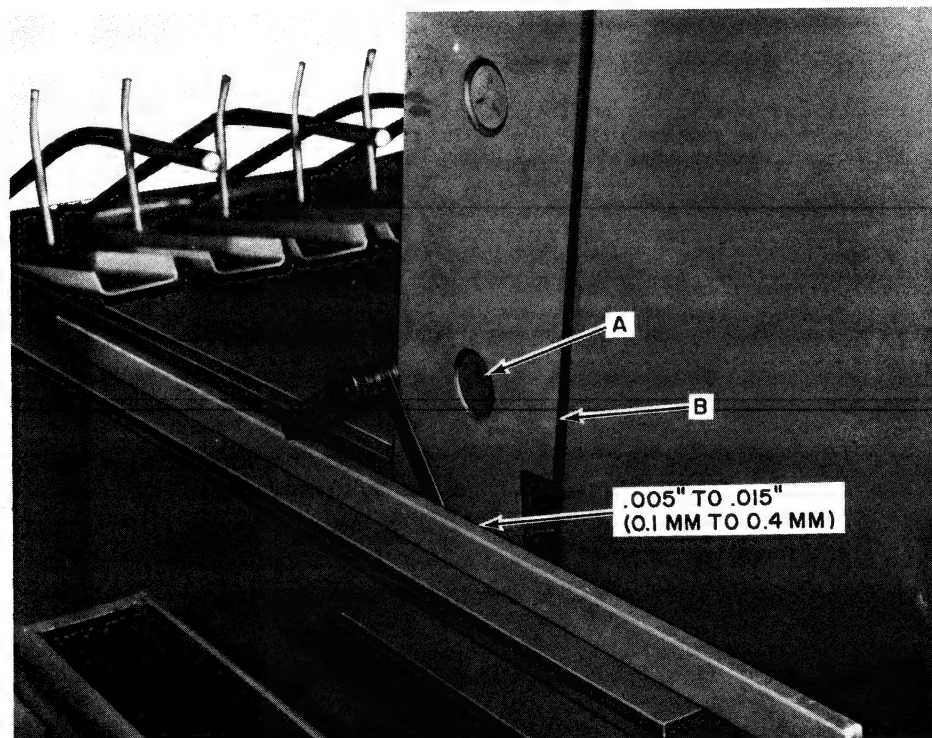

FIGURE 64
12. Install the stationary knife, B, Figure 64. Using a feeler gauge and straight edge as shown in Figure 64, add or remove shims between bale case and knife, B, Figure 64, to obtain .005" to .015" (.1 to .4 mm) as shown.
Be sure to torque bolt, A, Figure 64, to 75 to 80 ft. lbs. (102 to 109 N·m) before checking the clearance between the straight edge and stationary knife.